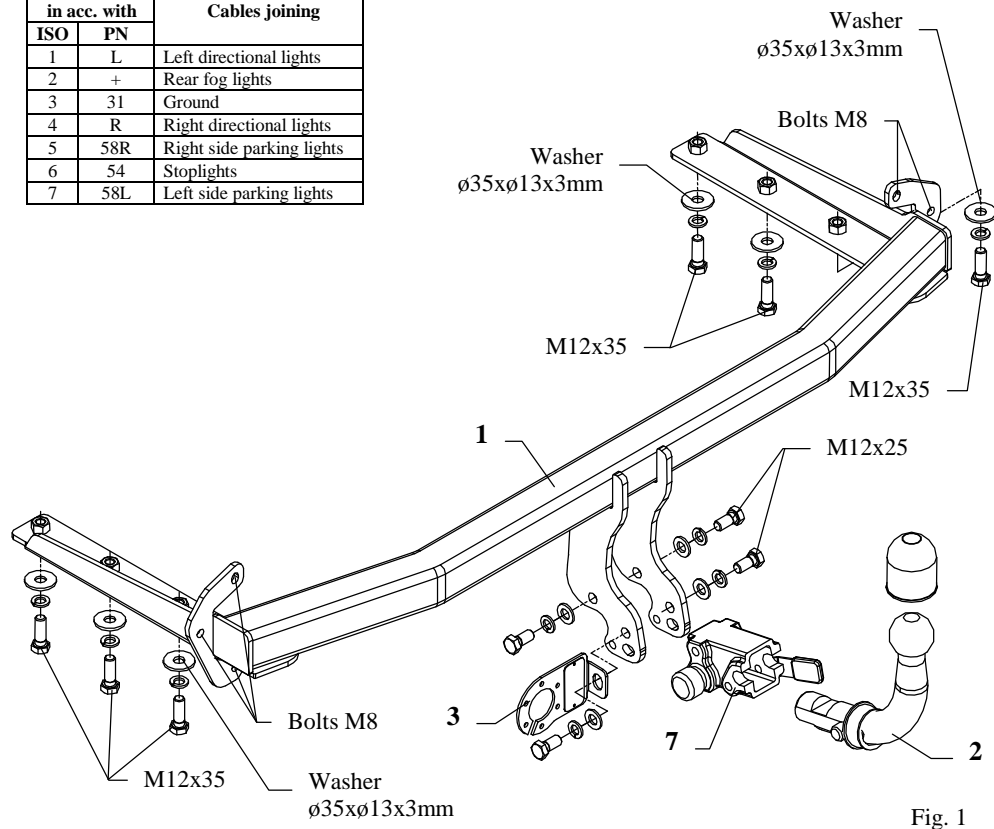

Fig. 1
3. Slip the main bar of the towbar (pos. 1) to chassis members and fix using bolts M12x35mm (pos. 5) and bolts M8 remaining by unscrewing of the metal reinforcement (see fig. 1).